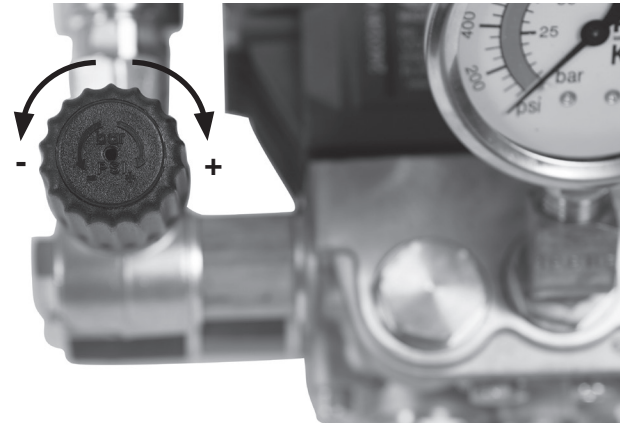

Figure 4 – Adjust The Unloader Valve
2. On the KJ-1750, adjust the unloader valve so that the pressure gauge shows 1750 PSI (green zone). At this pressure, the KJ-1750 draws approximately 17 amps when supplied with 120 volt A/C current. (Figure 4)